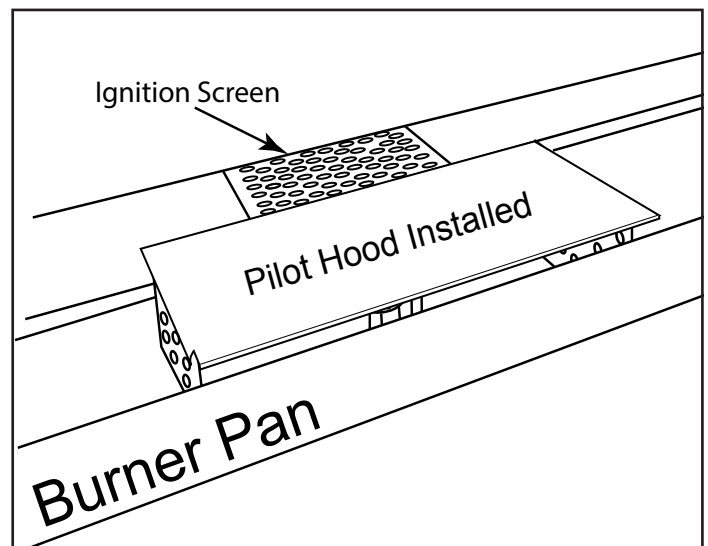
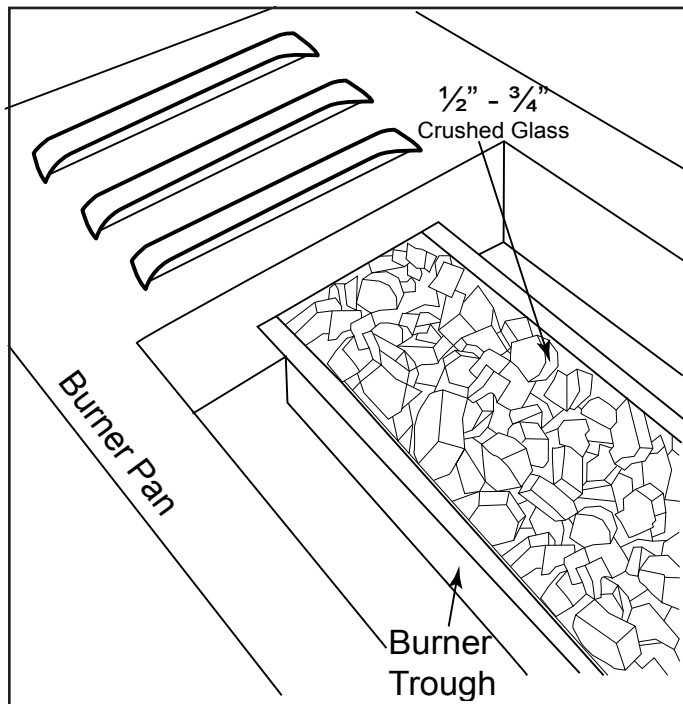
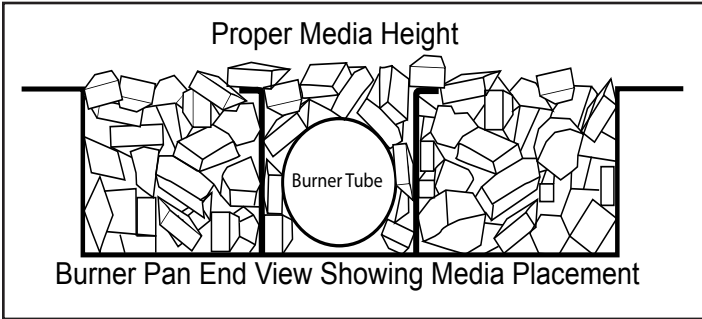

Fig. 32 Pilot hood installed, showing ventilation at front edge of burner pan.
Fig. 34 Installing media into the fireplace.
Fig. 35 End view of burner with media.
Remove the plastic film from the pilot hood and place it on top of the pilot box as shown in Fig. 32.
Step 24: Open the media box and install the glass media as shown is Figs. 34 - 36. Place media fireglass into the trough area first as shown in Fig. 35. Use the remaining media to fill the burner pan equally on both sides. Install only one layer over top of the ignition screen (Fig. 32), just enough to camouflage it.
Note: Media amounts listed in Table 8 are guides and can vary depending on media used. Ensure not to cover more than ½ -inch above the actual burner tube and keep all media within the burner pan area (See Fig. 35).